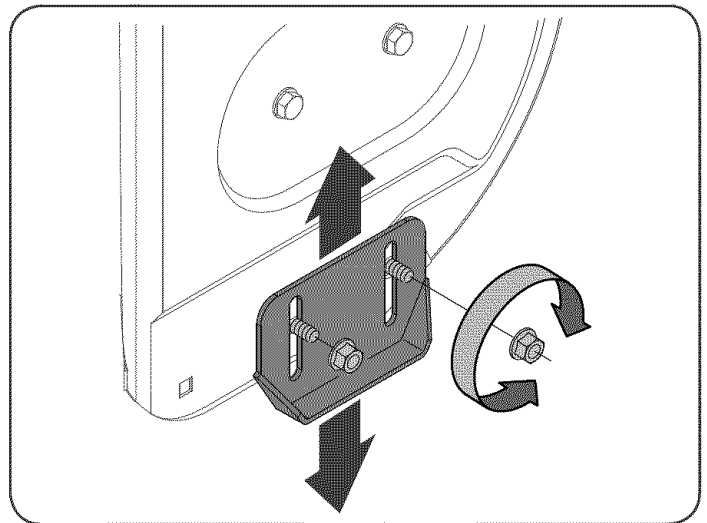

Figure 12
2. Loosen the four hex nuts (two on each side) and carriage bolts. Move skid shoes to desired position. See Figure 12.
1. Loosen the two nuts which secure the chute bracket and reposition it slightly. See Figure 12.